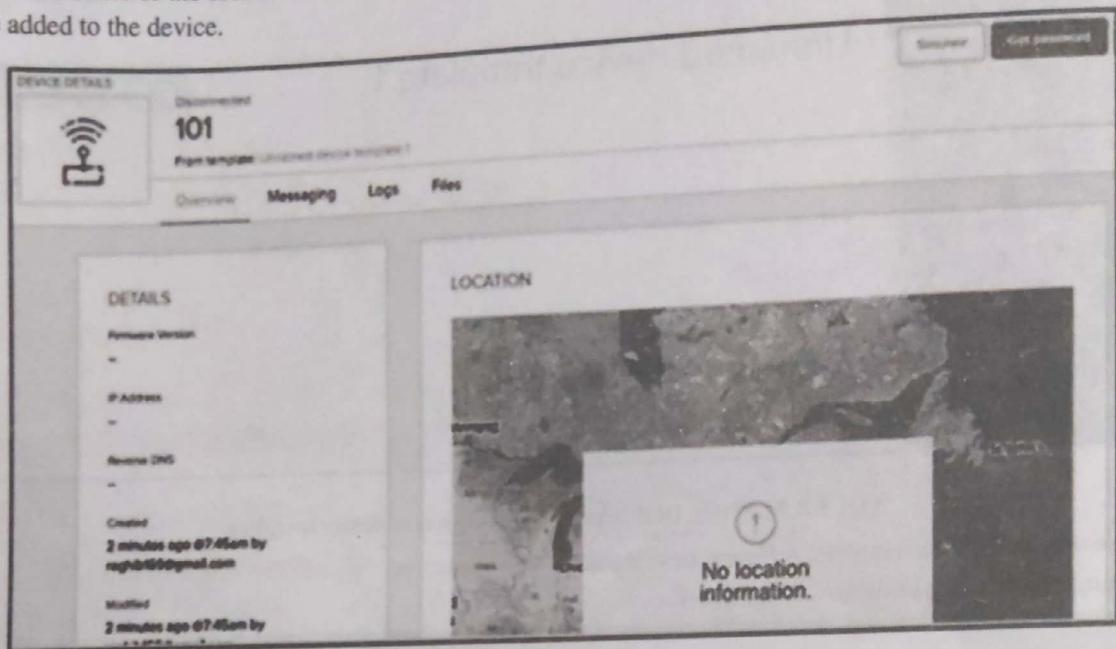

Fig. 6.4.5 : Xively Dashboard : Created device details
- The device details of the created device with serial number 101 is shown in Fig. 6.4.5. After creation more information can be added to the device.